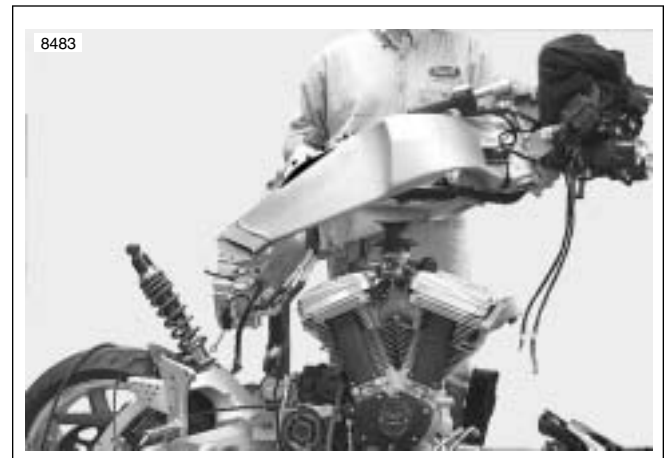

Figure 2-90. Lift Frame Off Motorcycle (Typical)
9. See Figure 2-90. Lift and remove frame from the motorcycle.